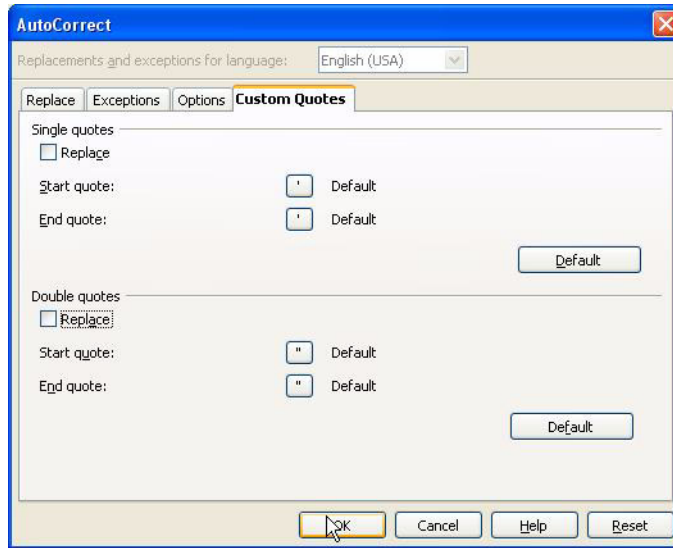

Figure 76 Uncheck **Replace** in the **Double quotes** section.
6. Select **Tools ▶ Autocorrect Options**. In the Custom Quotes tab, uncheck the **Replace** box in the Double Quotes section (see Figure 76). If this box is checked, the file will not be imported correctly into ICS because directional quotation marks will be used instead of non-directional (straight) quotation marks.